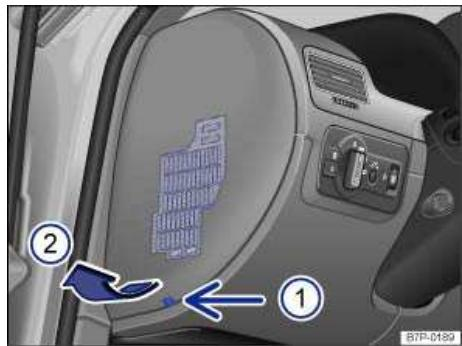
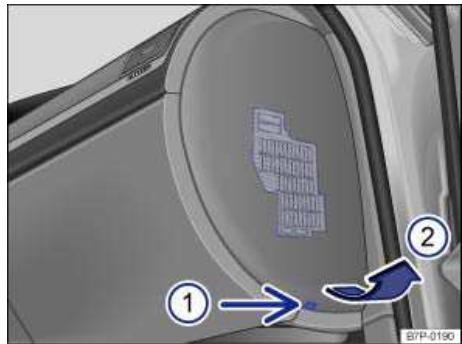

Fig. 345 On the left side of the instrument panel: Remove the fuse box cover.
Fig. 346 On the right side of the instrument panel: Remove the fuse box cover.
- Insert a flat object, such as the screwdriver in the vehicle tool kit, into the opening ⇒ fig. 345 \(1\) or ⇒ fig. 346 \(1\) and carefully pry off the cover in the direction of the arrow (2).